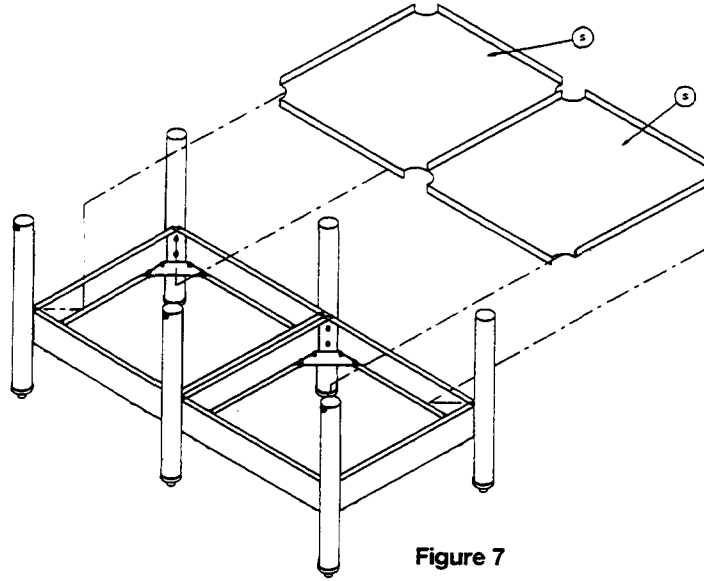

Figure 7
- *7. Install optional shelves item "S" between leg assemblies. Down flange on shelves will be to front side of stand. No mounting screws are necessary. See Figure 7.